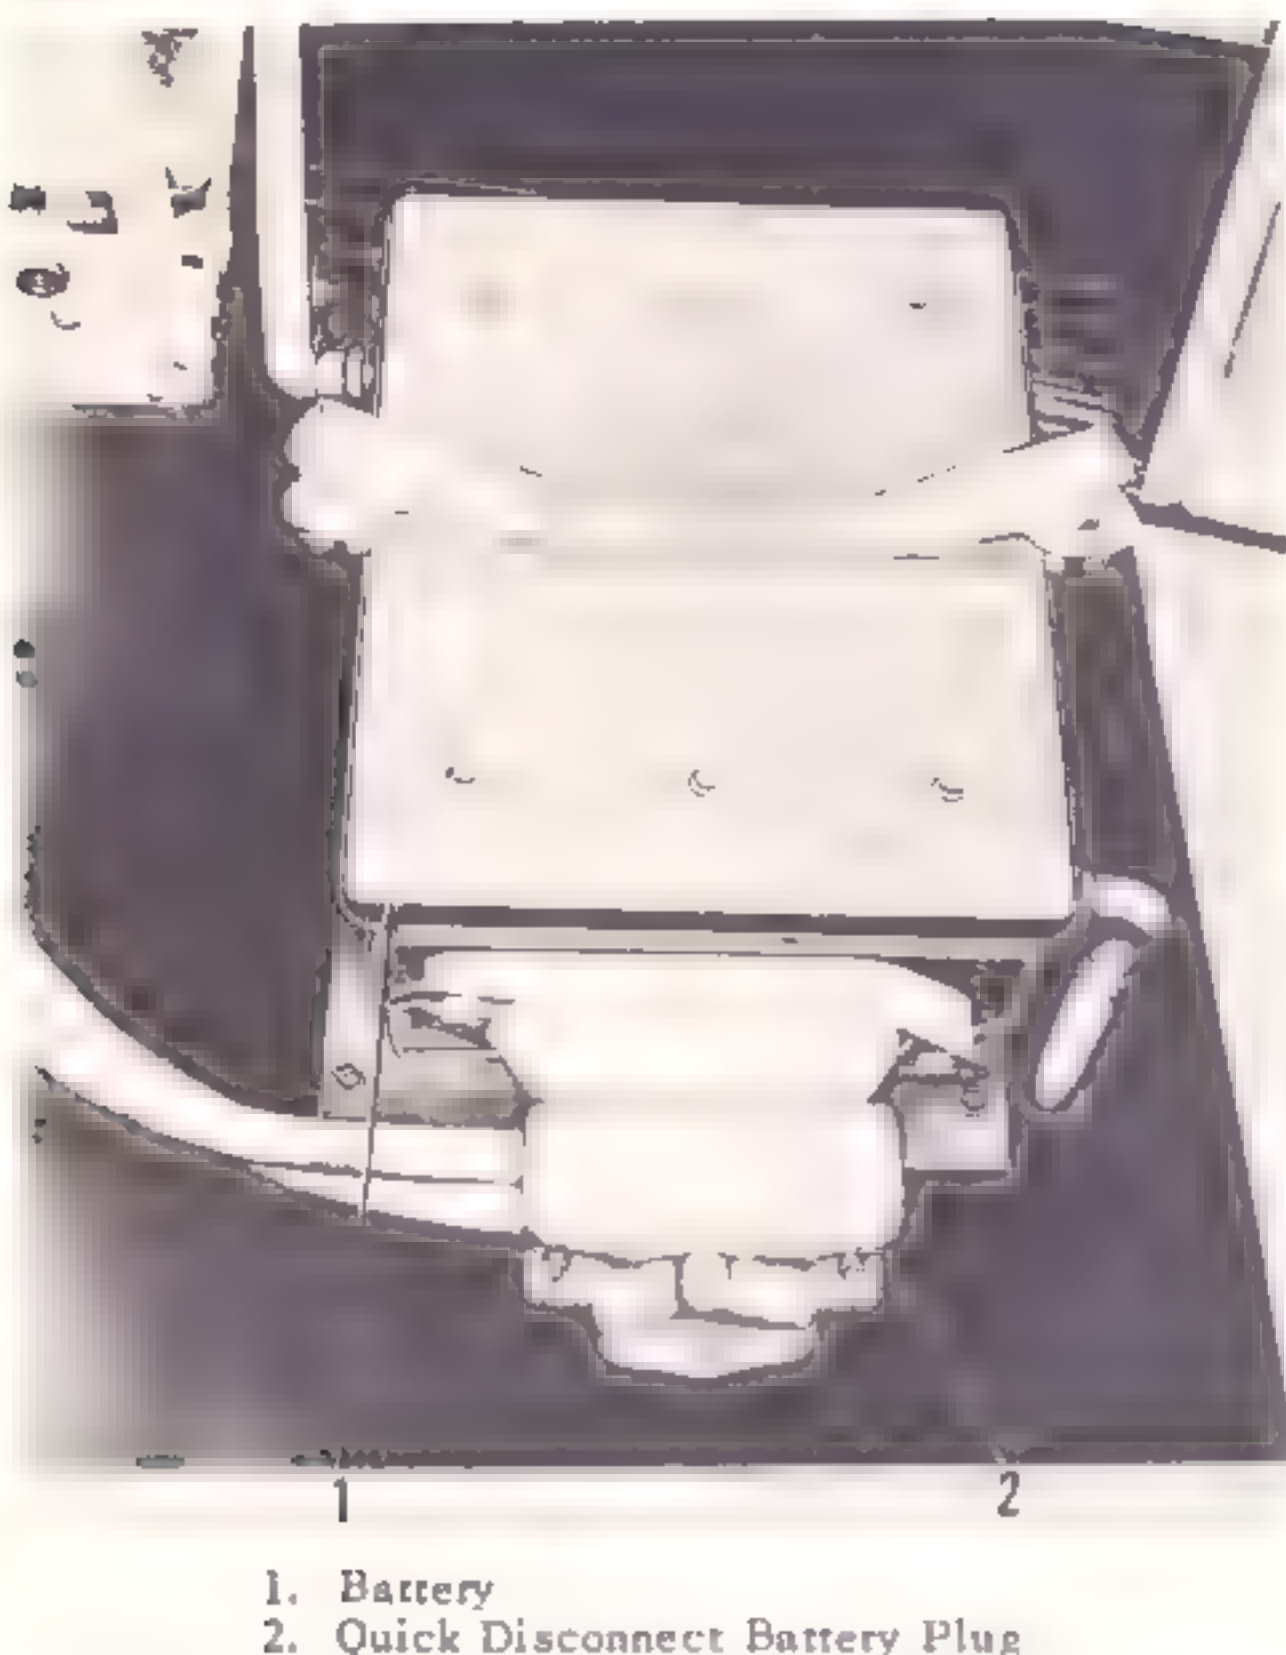

Figure 12-28. Battery installation (helicopters serial No. prior to 56-4313)
12-68. Battery. A 24-volt, 36-ampere-hour battery (1, figure 12-28 or 6, figure 12-7) is used in the dc electrical system of the helicopter. Electrical connections to the battery are made through a quick disconnect battery plug (2, figure 12-28 or 8, figure 12-7). The negative terminal of the battery is grounded to the helicopter structure. The positive terminal is connected directly to both the battery relay and the battery supply circuit. On helicopters serial No. prior to 56-4313, the battery (1, figure 12-28) is located in the
c. Disconnect battery leads by removing quick disconnect battery plug (2, figure 12-28 or 8, figure 12-7).
d. Disconnect vent and overflow tubes from battery (1, figure 12-28 or 6, figure 12-7).
f. Connect battery. Turn wheel of quick disconnect battery plug (2, figure 12-28 or 8, figure 12-7) to lock position.